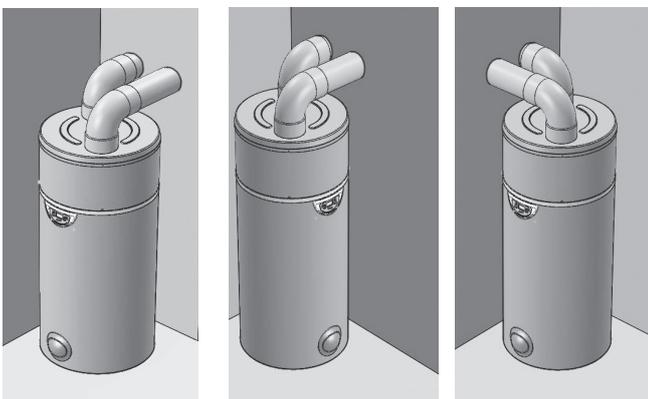

Figure 9: Examples of air connection to the water heater
- If the PV function regulator has two control contacts, connect them to Entrée 1 and 2 on the electronic board (see Figure 9).